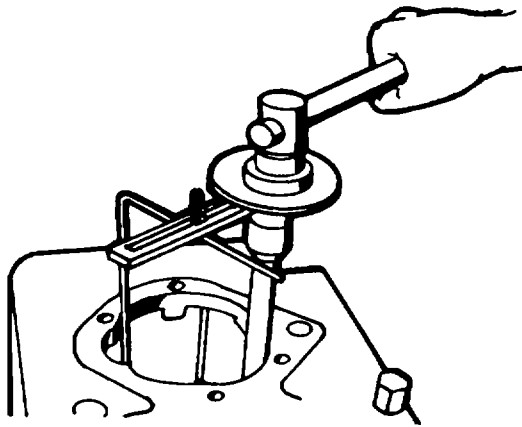

Figure 5-26. Inserting Bearing Cap Bolts
23. Insert the bearing cap bolts. Torque in accordance with the instructions given in torque specifications (use device No. 003-1102, figure 5-26).